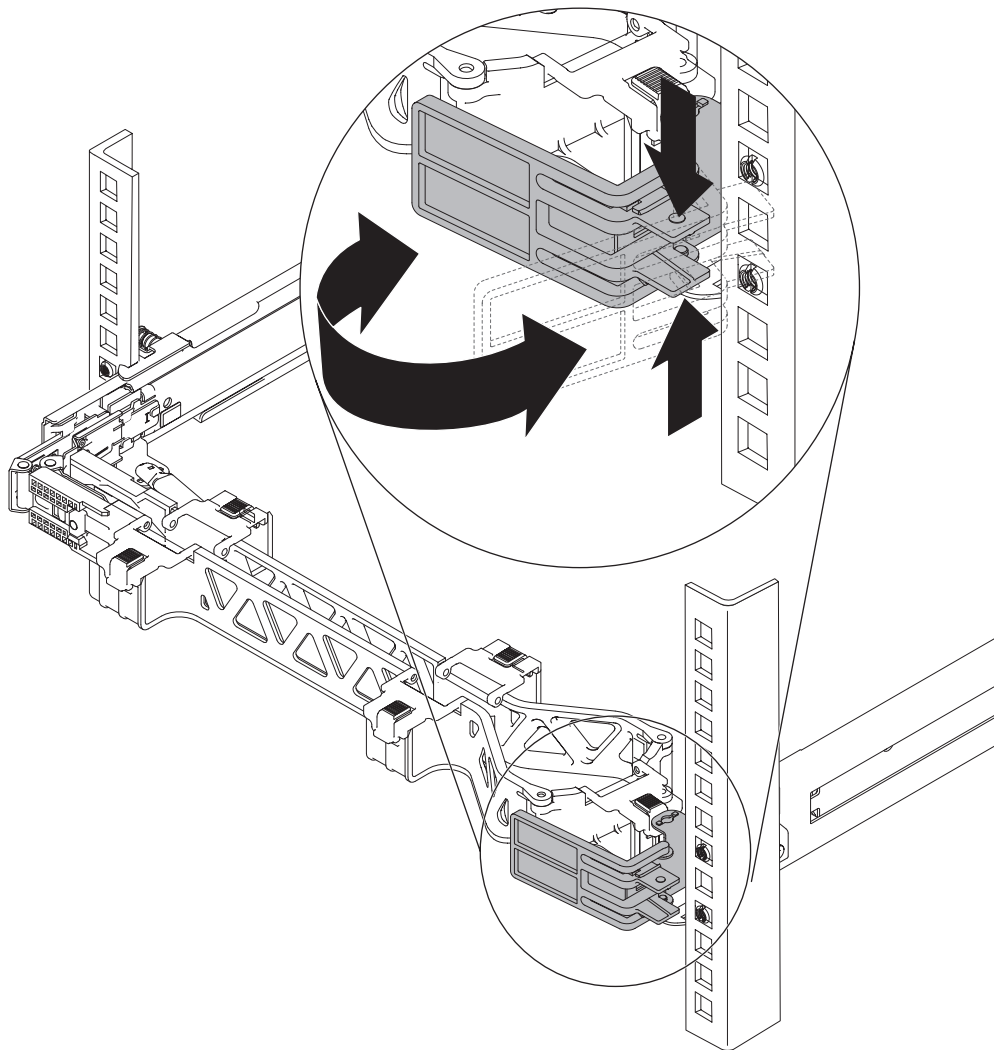

Figure 37. Closing the stop bracket
7. Close the stop bracket as shown in Figure 37 on page 46.